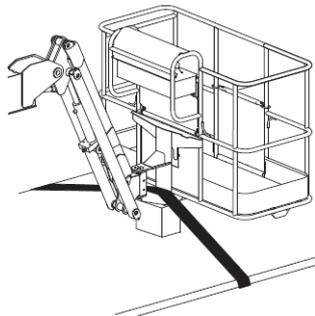

Figure 10-4 Schematic diagram of platform fixing
- 7) Place the cushion block below the platform rotary connection, and do not make the cushion block contact the platform oil cylinder. Make the nylon strap run through the platform support to fix the platform. Do not apply downward force excessively when protecting boom lever components, as shown in Figure 10-4.